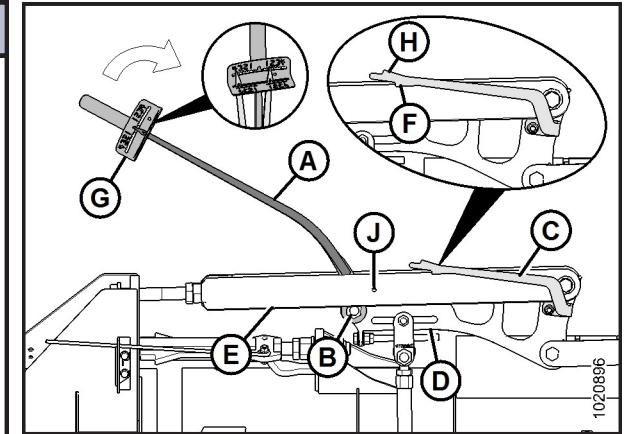

Figure 8: Wing Balance Linkage, Wings Set too Light – Left Side Shown, Right Opposite
- Place torque wrench (A) on bolt (B).
- Check that pointer (C) is properly positioned as follows:
- Use the torque wrench (A) to move the bell crank so that the bell crank's lower edge (D) is parallel to the top-link's lower edge (E).
- Ensure pointer (C) is lined up with the top-link (E). If necessary, bend the pointer it aligns with bolt hole (J).
- Move wing upward with torque wrench (A) until the pointer's lower alignment tab (F) lines up with the upper edge of the top-link (E). Refer to Figure 8. Observe the indicator reading (G) on the torque wrench and record it.